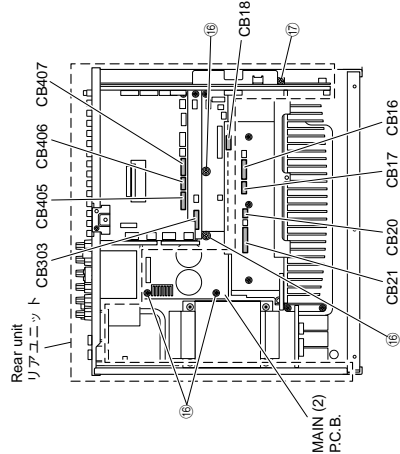

Fig. 8
- Remove 4 screws (16) and screw (17). (Fig. 8)
- Remove screw (18). (R, K, A, L models) (Fig. 8)
- Remove CB16-18, CB20, CB21, CB303, CB405, CB406 and CB407. (Fig. 8)
- Remove the rear unit and MAIN (2) P.C.B.. (Fig. 8)
- 16のネジ4本、17のネジ1本を外します。(Fig. 8)
- CB16-18、CB20、CB21、CB303、CB405-407を外します。(Fig. 8)